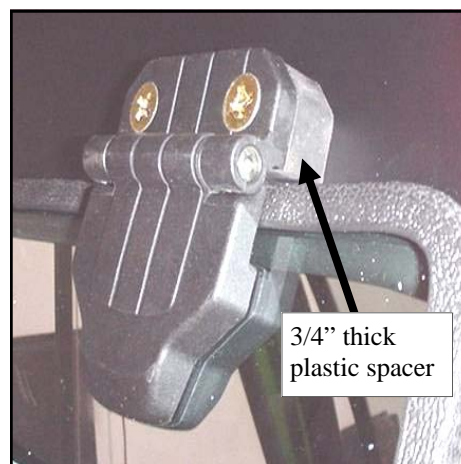

Fig. 17.2 3/4" thick spacer block
**17.2** Attach the upper hinges using the following: two 3/4" thick plastic spacer blocks, four 5/16-18 x 1 3/4" long flat head bolts, four steel washers, and four locknuts. See fig. 17.2. Locknuts and washers to be on the inside of the cab. Do not tighten bolts.